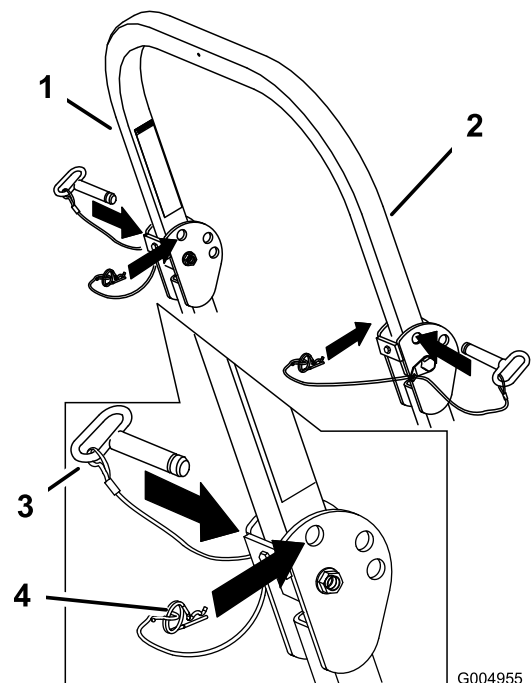

Figure 10
1. Remove the hairpin cotters and remove the 2 pins (Figure 10).
3. Install the 2 pins and secure them with the hairpin cotters (Figure 10).
2. Raise the roll bar to the upright position, install the 2 pins, and secure them with the hairpin cotters (Figure 10).